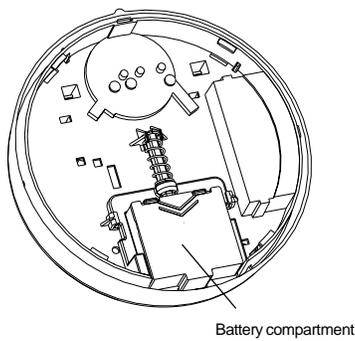

Figure 3. Battery Compartment
2. Slide the battery cover away from the alarm to unsnap it and lift it off. See Figure 3.
2. Slide the battery compartment cover away from the alarm to unsnap it and lift it off. See Figure 3.